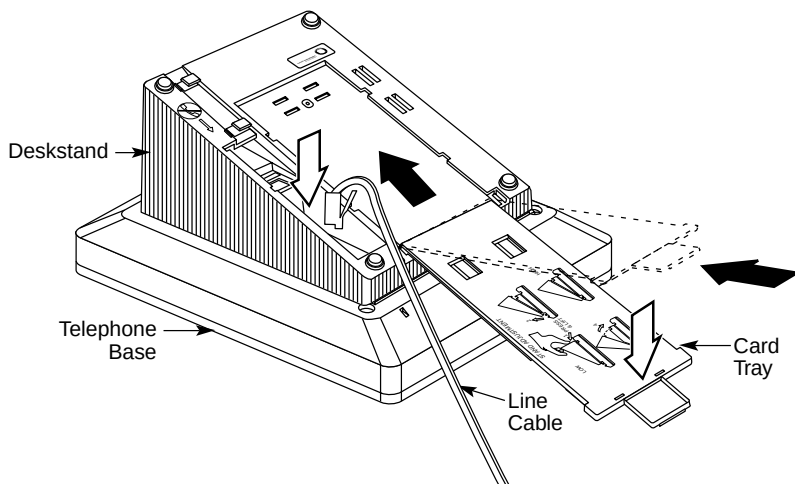

Figure 3-17. Replacing the User Card Tray and Line Cable
- **10. Replace the user card tray and line cable. See Figure 3-17.**